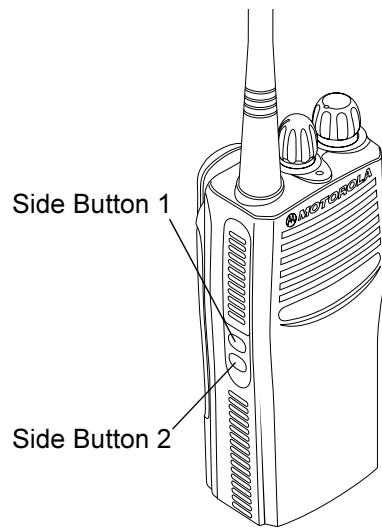

Figure 4-3 Side Button Locations
2. Within ten seconds after the self test is complete (self test tone is heard), press SB2 (Side Button 2 in Chapter 4, Figure 4-3) five times in succession. If the self test complete tone is not heard, see Error Codes information in Chapter 5. Entry into the test mode is indicated by a positive indicator tone followed by a good key chirp (GKC).
4. Press and hold the two side buttons at the same time on the source radio and then power up the source radio (Figure 4-3 Side Button Locations). Both radios produce a "clone-entry" tone.